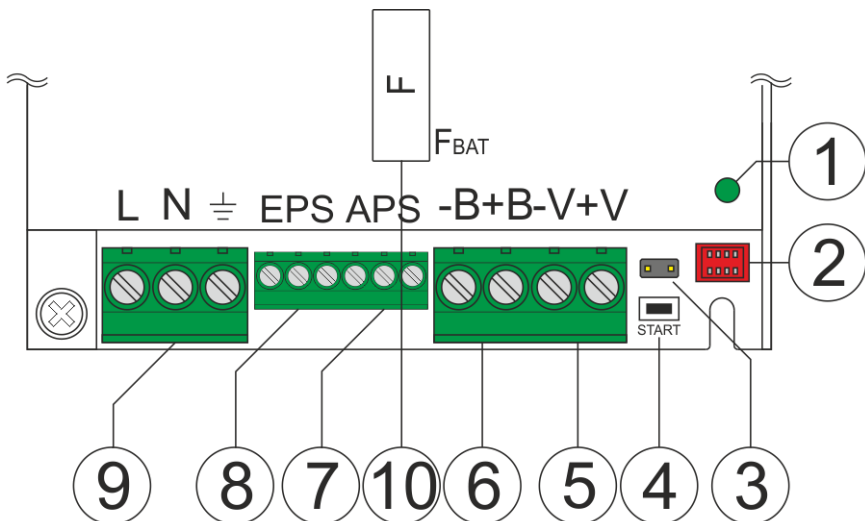

Fig. 2a. View of power supply module (12V2A, 12V3A, 12V5A, 12V7A, 24V2A, 24V3A models)
**Table 2. Elements and connector of PSU (see Fig. 2a, 2b, 2c).**